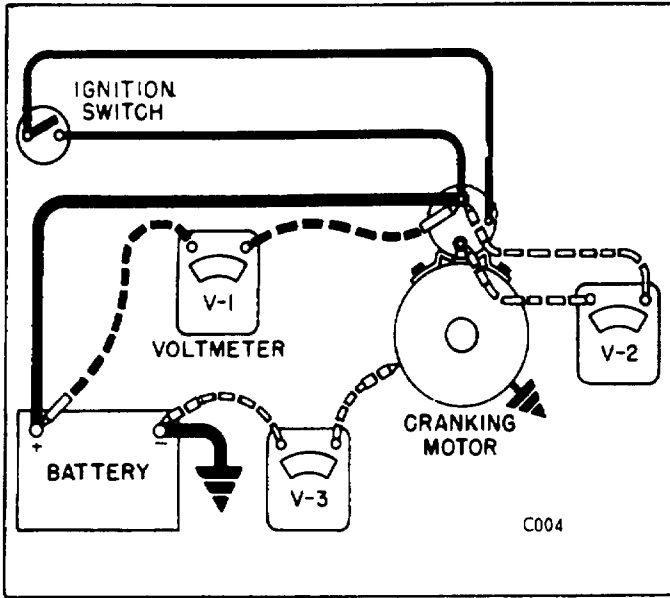

Figure 32.
1. Disconnect the primary lead to the distributor to prevent engine starting. Referring to Figure 32, and with starter cranking engine during each check, measure V-1 (with voltmeter connected to the positive (+) battery post and the solenoid battery terminal), V-2 (with voltmeter connected to the solenoid battery terminal and solenoid motor terminal),